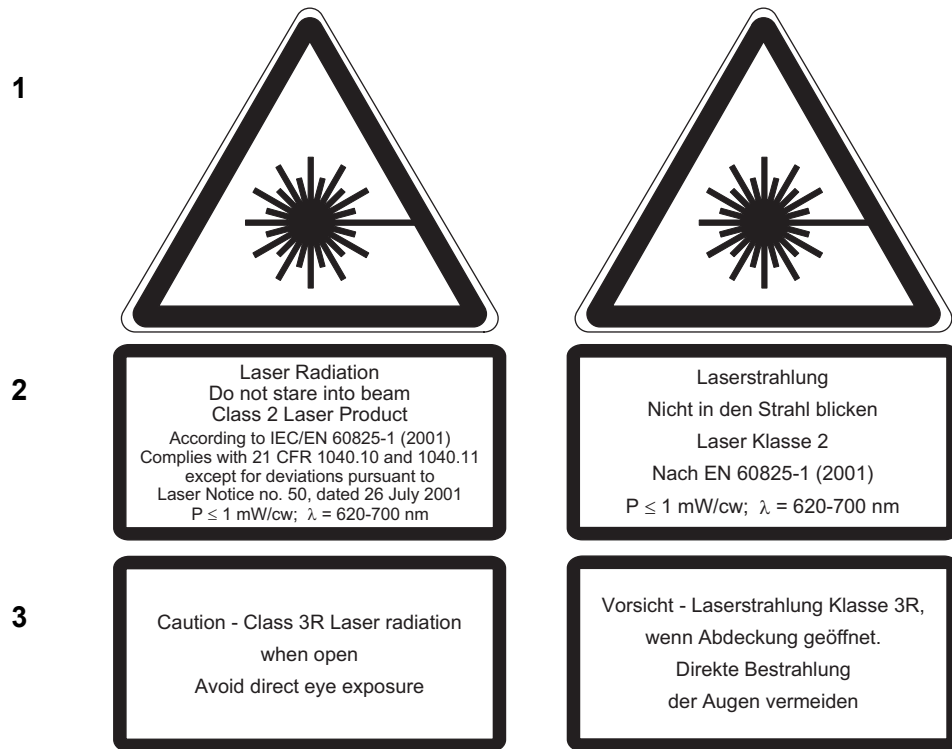

Figure 1.1: Laser warning labels for the sensor head
Warning labels The laser warning labels for the sensor head are shown in FIGURE 1.1. For the countries in the European Union (EU), labels **2** and **3** are affixed in the language of the customer's country (see right-hand-side).